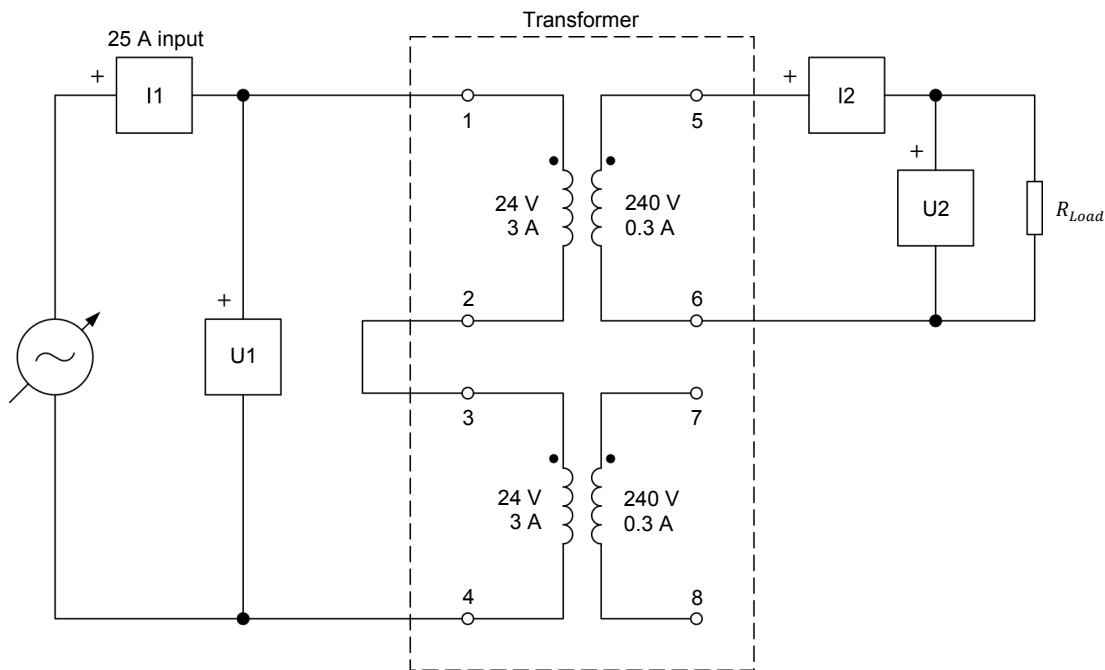

Figure 19. Step-up transformer connected to a resistive load.
23. Connect the equipment as shown in Figure 19.